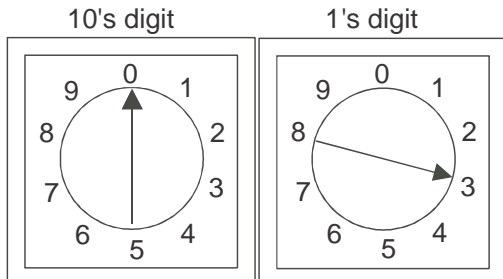

Figure 8. Rotary Address Switches
B. Set BACnet portal default address. The default IP address is 192.168.168.xxx. The xxx indicates the final portion of the IP address which is set using the rotary switches on the BACnet portal. The final portion of the address identifies the BACnet portal with a unique address on the BACnet network. For example, using the default address, Figure 8 shows the BACnet portal address configured as 192.168.168.3. Set the user-assigned final portion of the portal network address using the rotary switches.